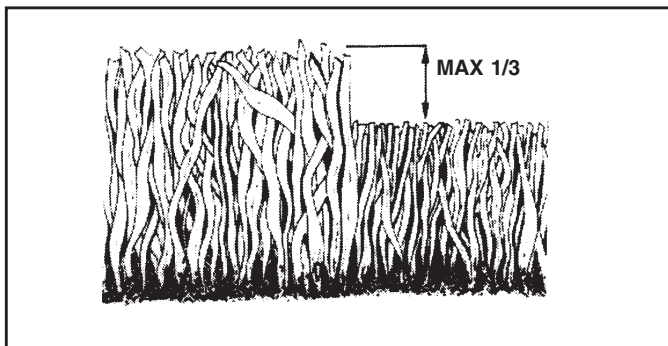

FIG. 10
- For best results, adjust the mower cutting height so that the mower cuts off only the top one-third of the grass blades (See Fig. 10). For extremely heavy mulching, reduce your width of cut on each pass and mow slowly.